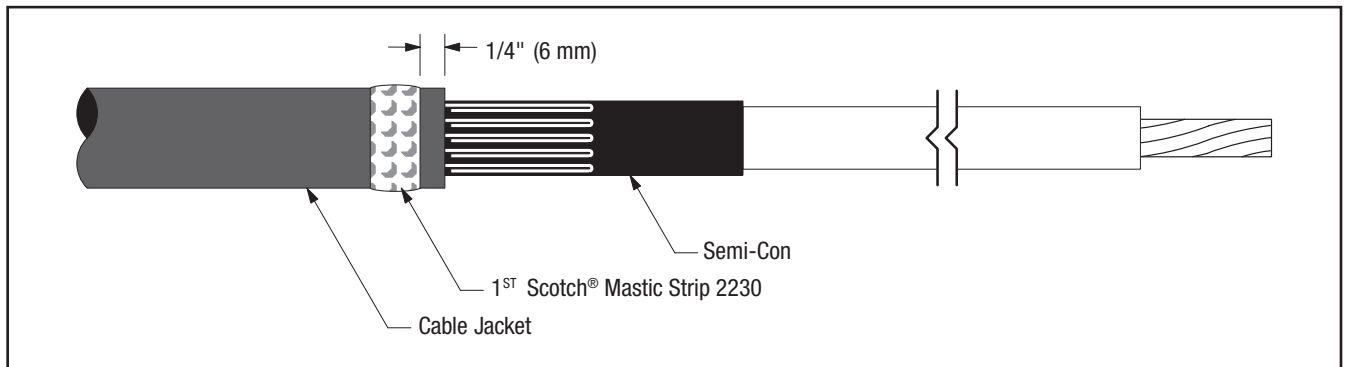

Figure 10
- 8.1 Select a Scotch® Mastic Strip 2230 from kit and remove white release liners. Using light tension, apply a SINGLE WRAP of mastic around the cable jacket 1/4" (6 mm) from cut edge (Figure 10). Cut off excess.